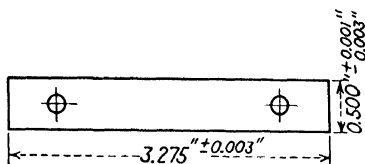

Fig. 44b.
5. What are the limits on the length and width of the job in Fig. 44b?